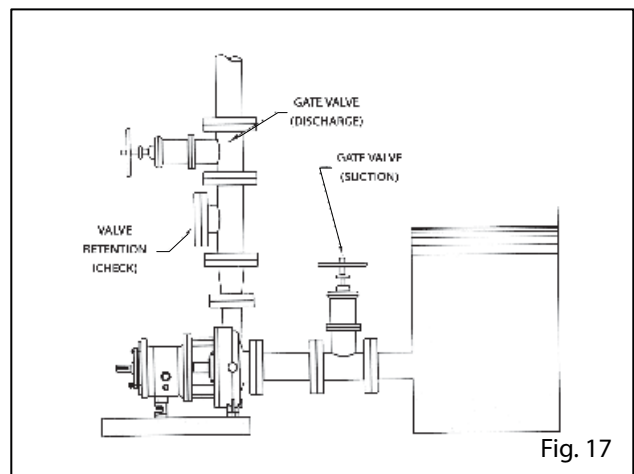

Fig. 17
- 7.- When the suction is positive, i.e. when the pump is with suction flooded, (see Figure 17) a gate valve should be installed in the suction line at least two diameters of the suction flange, no portion of the piping should extend below the suction flange.
- 1.- Slowly open the gate valve located in the suction pipe (see Figure 17).